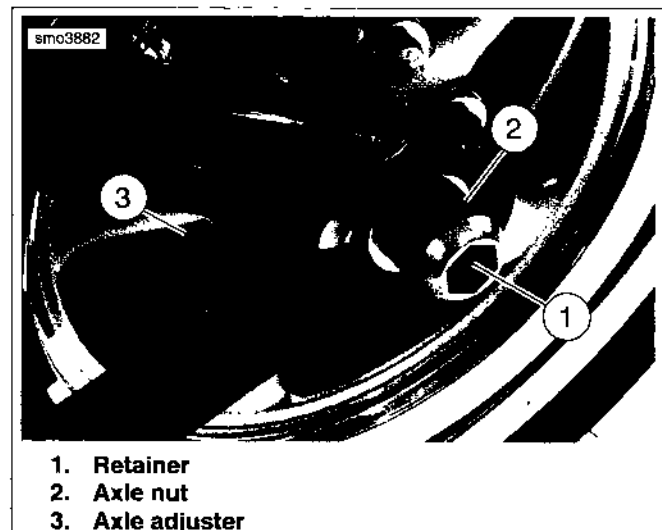

Figure 2-9. Axle Adjusters: FXCWC
8. **FXCWC:** See Figure 2-9. Remove rear axle nut (2).
9. Loosen both axle adjuster screws (3) an equal number of turns to remove tension from drive belt.